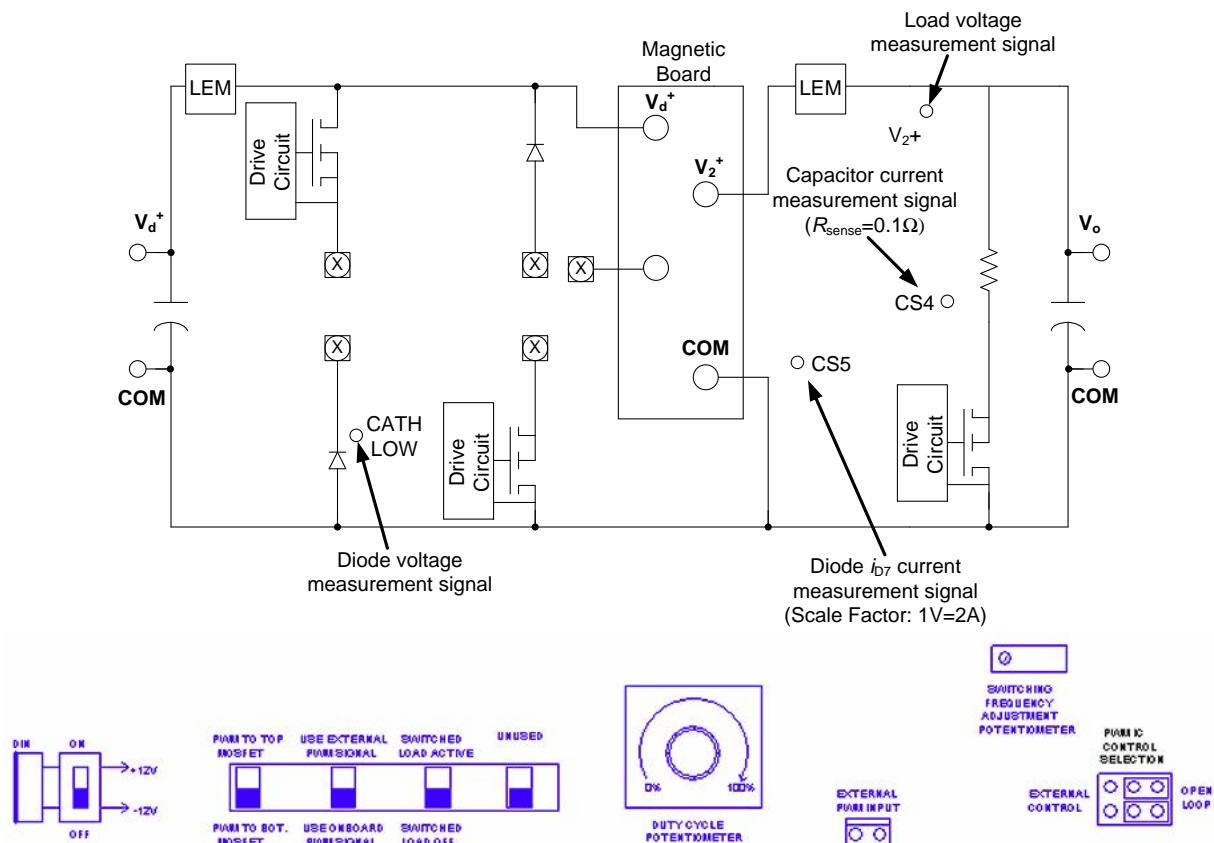

Figure 1. Sketch over the laboratory board with no magnetic board attached.
- (1) Determine the primary magnetizing inductance of the transformer. Use the data given for the core and the windings.
- (2) How can the magnetizing inductance value be determined if the current waveform  $i_{D7}$  and the output voltage is known?
- (3) What is winding  $N_2$  in Figure 1 used for and how (Refer to lecture, tutorial 5 or PSpice 3 for detail)? What is the maximum possible voltage on the switch  $S$  in the absence of the second winding?
- (4) Complete the Flyback converter in Figure 1. Draw the necessary connections between the diode, transistor and the magnetic board. The magnetic board for the flyback lab consists of a three-winding transformer and a diode. Observe that not all diodes and MOSFET's on the lab board need to be used.
- (5) The Flyback converter can operate in either DCM or CCM. Draw the ideal waveforms of  $v_{sw}$ ,  $i_{sw}$ ,  $i_{D7}$  and  $i_{D5,6}$  for  $D = 0.3$ ,  $R_{load} = 20\Omega$  for two switching frequencies on pages 4 and 5 ( $f_{sw} = 20kHz$ ,  $f_{sw} = 100kHz$ ). Hint: One switching frequency will result in DCM operation and the other one to CCM operation.
- (6) Assume that  $R_L = \infty$ ,  $D = 0.3$  and  $f_{sw} = 20kHz$ . Draw the ideal waveforms for  $v_{sw}$ ,  $i_{sw}$ ,  $i_{D7}$  and  $i_{D5,6}$  on page 6.
- (7) Derive the expression for the input/output voltage ratio for both CCM and DCM. Use these expressions to complete the tables on page 9 and 11 for the specified values of the duty-cycles. Use  $R_L = 20\Omega$ ,  $f_{sw} = 20kHz$  and  $f_{sw} = 100kHz$ .